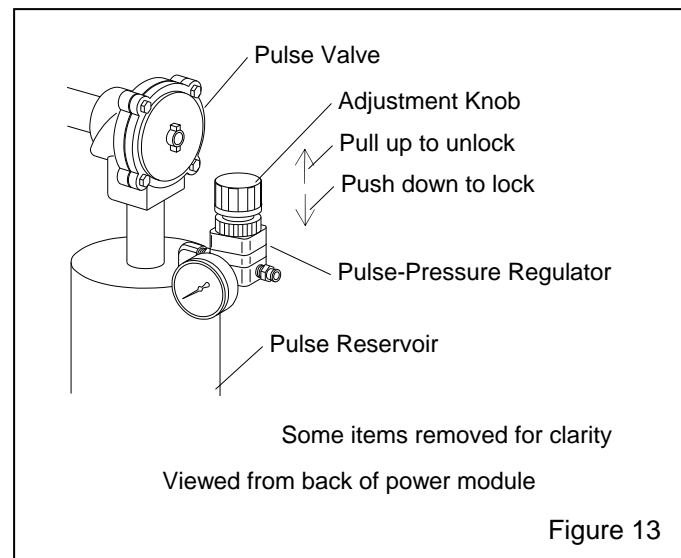

Figure 13
**5.6.1** Adjust pulse pressure using the regulator mounted on the pulse reservoir, as shown in Figure 13. Begin pulse at 60 psi. To adjust pressure, pull the knob to unlock it, as shown in Figure 13, turn clockwise to increase pressure or counterclockwise to decrease pressure. Once operating pressure is set, push the knob to lock it and maintain the setting.